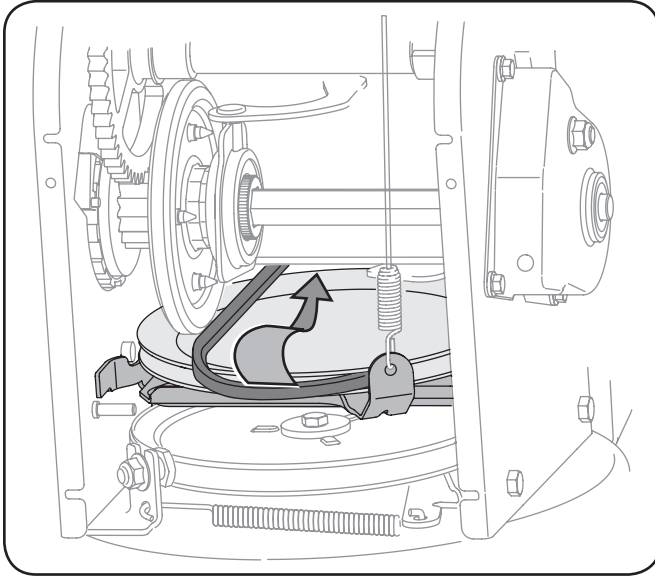

Figure 8-7
6. Slip the drive belt off the pulley and between friction wheel and friction wheel disc. See Fig. 8-7.